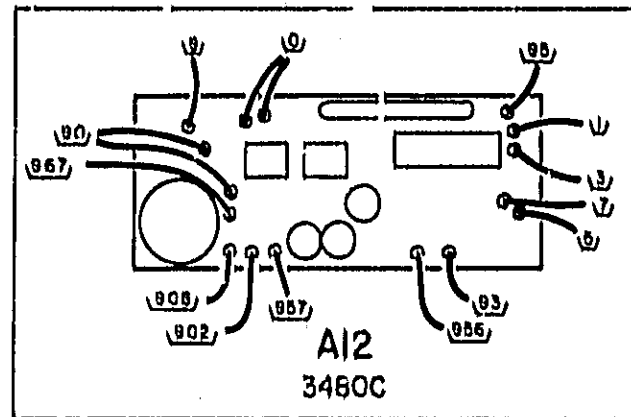

Figure 2-4. Sample/Hold Board Connections, 3480C.
o. Connect wires (step h) to A12 assembly as indicated in Figure 2-4.